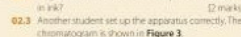

Figure 3: What does Figure 3 tell you about green ink? (2 marks)
62.2 Another student set up the apparatus correctly. The chromatogram is shown in Figure 3.